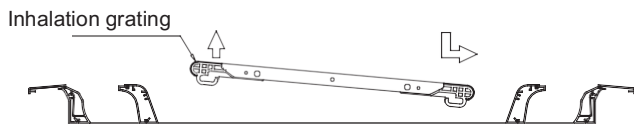

Fig.5-11
- 3) Open the inhalation grating (about 45°), and remove the other side, refers to Fig.5-11